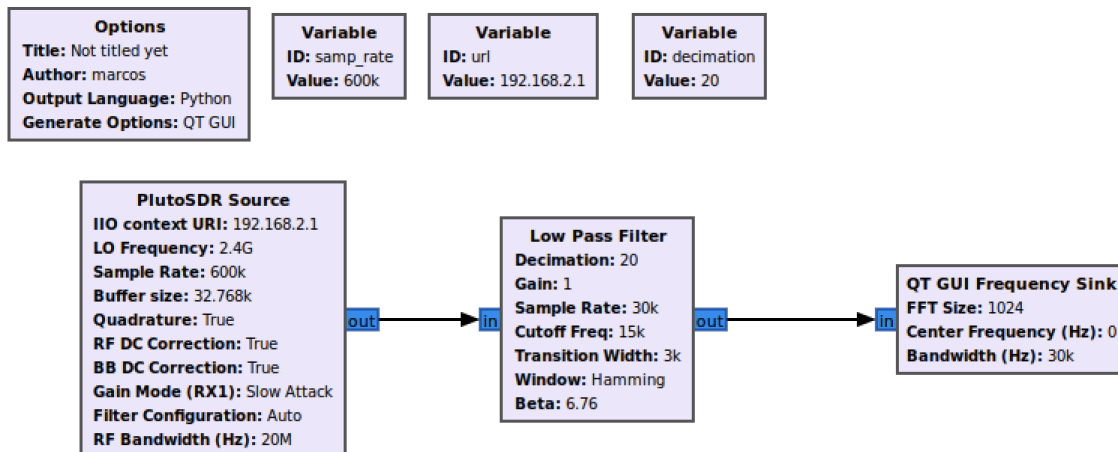

Figure 2
To address this limitation, a low-pass filter can be employed. This filter acts like a "zoom in", focusing on specific frequencies within the bandwidth of interest and effectively reducing the frequency resolution to isolate and detect signals more accurately. Let's integrate a low-pass filter into your Receiver file, as depicted in Figure 2, to refine the frequency resolution by reducing the bandwidth.
1. Check Figure 1b and Figure 2, and calculate the frequency resolution in each case based on the equation (1)
2. Create GRC files and flowgraphs similar to Figure 1a (TX) and Figure 2 (RX). Obtain a screenshot of the plot using RHL-RELIA and annotate the value of the visible SFO.
3. Based on the value obtained in step (2), determine how many frequency bins the SFO is away from the frequency center. *Hint: A frequency bin is numerically equal to the frequency resolution.*